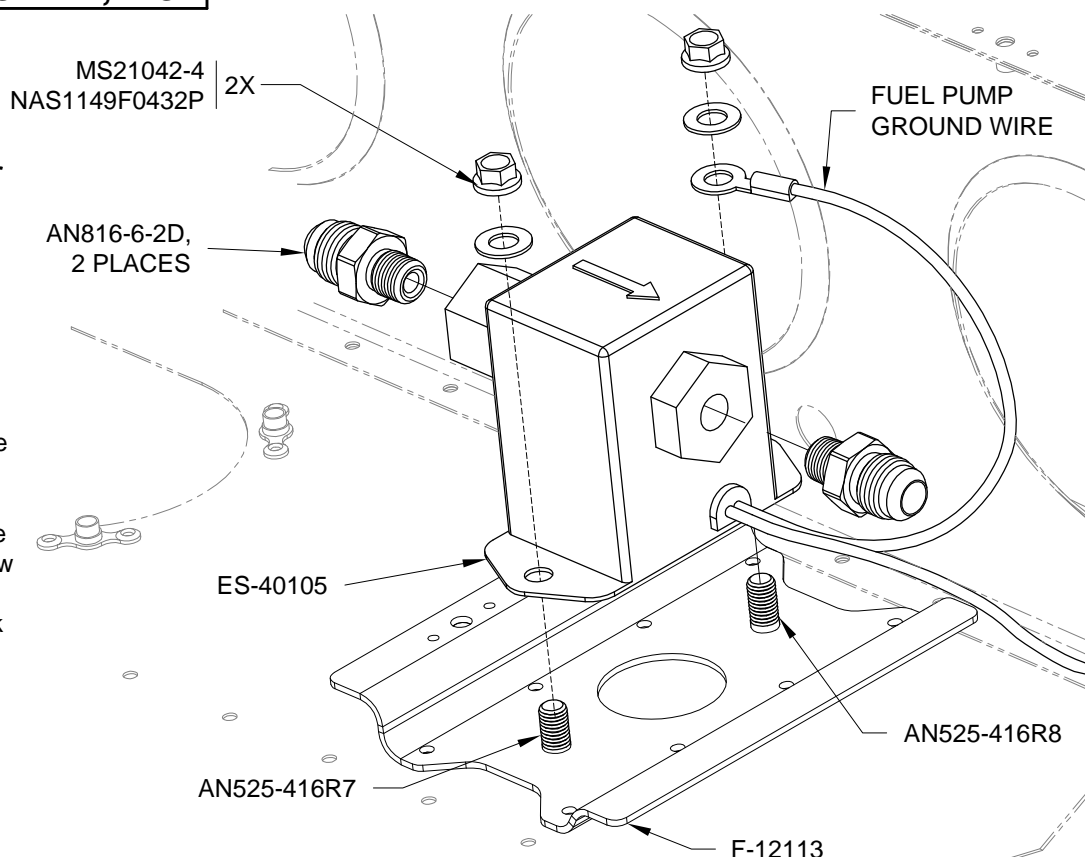

FIGURE 1: INSTALLING THE FUEL PUMP
Step 1: Install the fluid fittings into the ES-40105 as shown in Figure 1.
Step 2: Slip the ring terminal from the black ground wire over the right screw and install the ES-40105 to the F-12113 as shown in Figure 1 (check the flow direction).